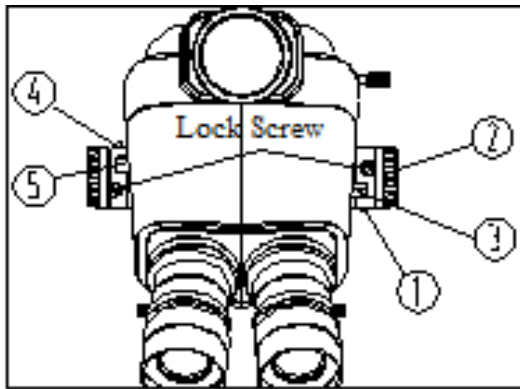

Fig.3
1. Use a hex tool to loosen the lock screw of right limit ring (1) and left limit ring (4).
2. Rotate the right zoom knob (2), to align the magnification maximum with the scale on the right limiter (3).
3. Touch the right limit ring (1) with the right limiter (3) gently, and tighten the lock screw with a hex tool.
4. Repeat the steps as above, rotate the right zoom knob (2), to align the magnification minimum with the scale on the right limiter (3).
5. Touch the left limit ring (4) with the left limiter (5) gently, and tighten the lock screw with an inner hexagon spanner. (See Fig. 3)